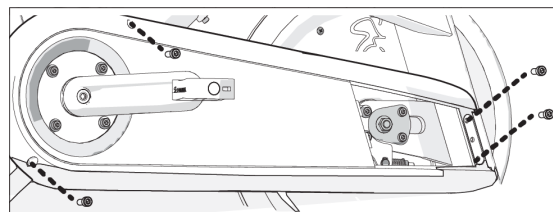

Figure 2
2. Loosen the four bolts holding on the cover and remove it (Figure 2).